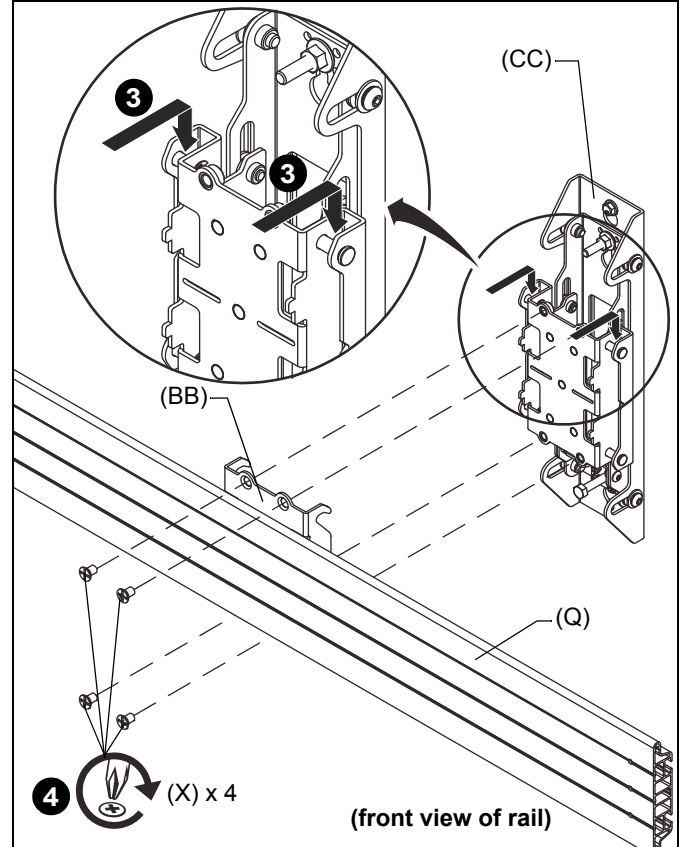

Figure 12
3. Hook height adjust plates (BB) over wall uprights (CC). (See Figure 12)
4. Fasten mounting rail (Q) to wall uprights using four 5/16 x 1/2" Phillips flat head screws (X) through height adjust plate (BB) and into wall uprights (CC) and tighten all screws. (See Figure 12)